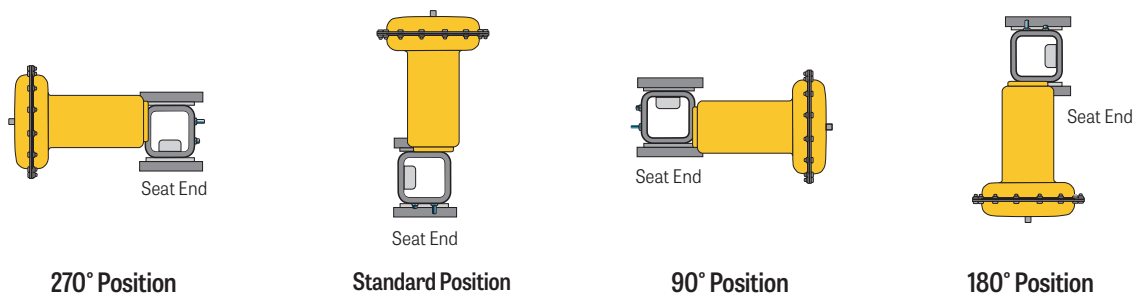

Figure 1 – Actuator Mounting Positions
7. Remove three of the bolts that fasten the diaphragm cover to the spring case. Equally space the bolts as shown in Figure 1, page 17.
8. For size 40 actuators, use 1/4" threaded rod, 3" long. For size 55 and 85 actuators, use 3/8" threaded rod, 8" long. Install the threaded rod about in each of the three holes, then install and tighten nuts on each end of the rods. Refer to Figure 1, page 17.